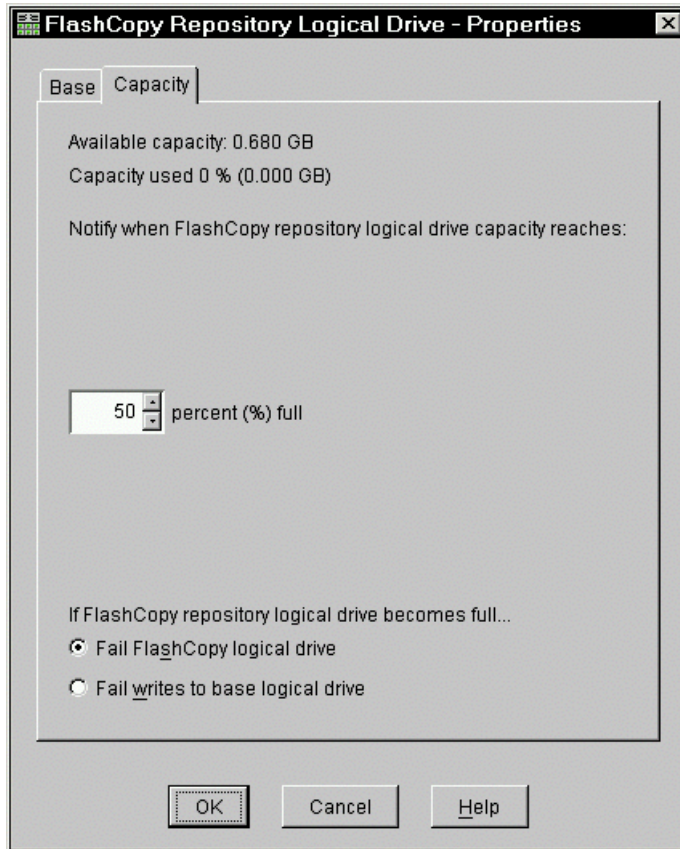

Figure 5-26 Repository drive warning threshold
3. Click the **Capacity** tab (Figure 5-26) to view or set the following FlashCopy repository logical drive capacity properties:
If the FlashCopy repository logical drive is set to *Fail FlashCopy logical drive* (Figure 5-26) when it becomes full, its data will not be recoverable and the FlashCopy cannot be accessed. The only available option (if this situation occurs) is to delete the FlashCopy logical drive or re-create the FlashCopy logical drive to create a new point-in-time image.
If the FlashCopy repository logical drive is set to *Fail writes to the base logical drive* (Figure 5-26), the data is recoverable. However, the FlashCopy repository logical drive capacity must be increased so writes to the base logical drive are not rejected. For more information, see 5.1.6, “Increasing the capacity of a FlashCopy repository logical drive” on page 147.